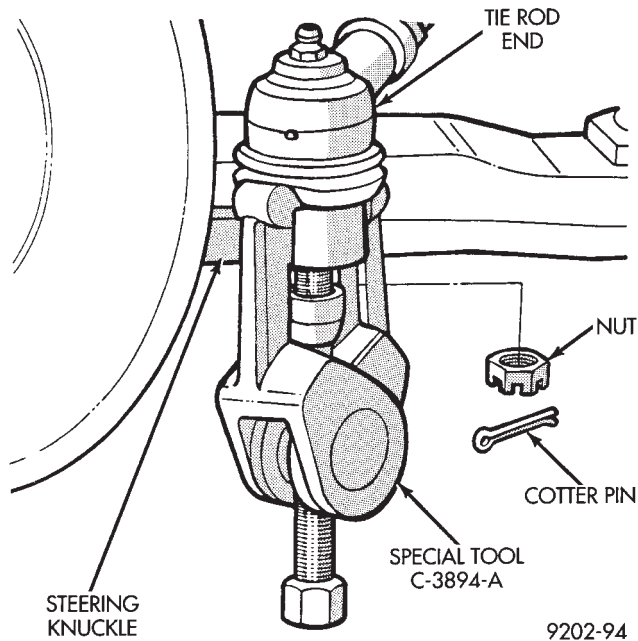

Fig. 6 Disconnect Tie Rod End
(7) Remove the cotter pin and nut from the tie rod end. Remove the tie rod end from the steering knuckle arm using Puller, Special Tool C-3894-A (Fig. 6).